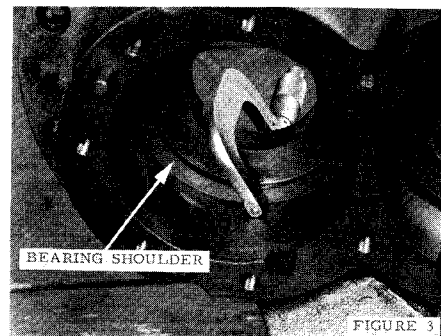

FIGURE 3
3. Remove the seal retainer plate and oil seal seat, Figure 3. Remove the seal housing and tap the drive shaft assembly through the seal housing bore using a piece of hard wood against the shaft end, Figure 3A. Drive shaft bearings are a light press fit in the housing bores.
3. With 0-2" outside micrometer, measure from flat side of the discharge end plate to the shoulder in each bearing bore, Figure 3, match and record with measurement made on main and secondary rotors in Step 2. These measurements are to be used later.